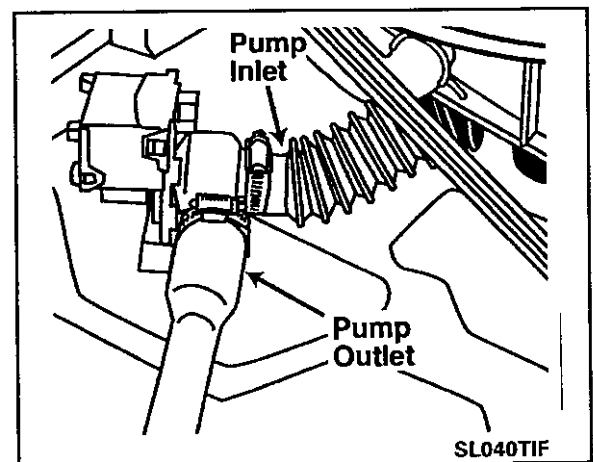

*Figure 6-7*
5. Rotate the pump assembly in a counter-clockwise direction. The support legs of the pump are slotted to engage in keyed slots in the base. Reverse the steps to re-mount the pump (*Figure 6-7*).